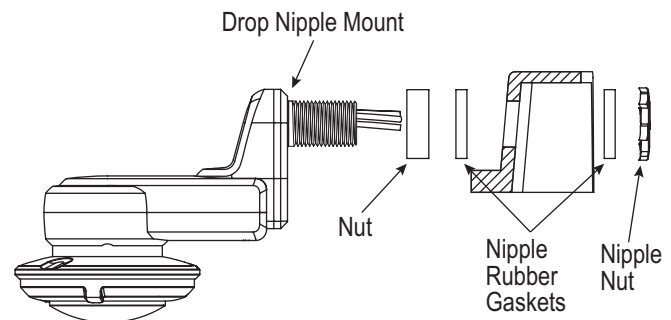

Figure 3. Installing the FSP-2x1B-D to a pole using the optional spacer
5. Connect load, supply and control wires (see Figures 3 and 4).